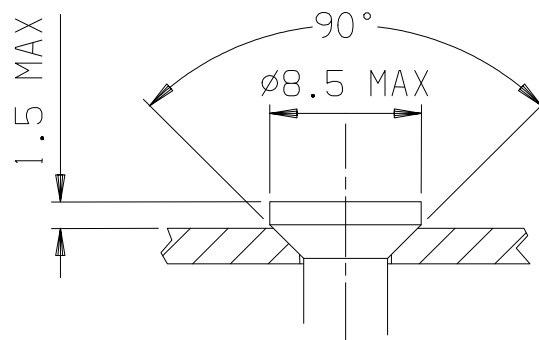

Fig. 3
- 3.1.16 Countersunk head screws. See Fig. 3.